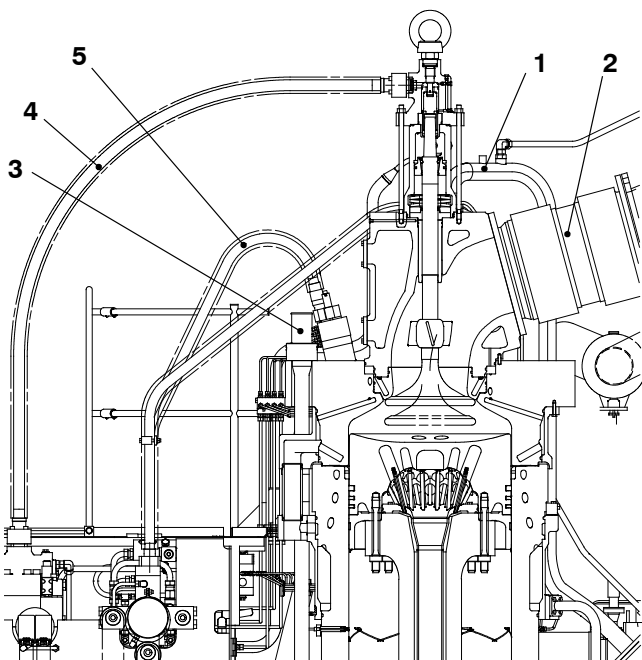

Fig. 11
- 13) Operate the engine room crane to move the cylinder cover (5) above the cylinder liner (1). Make sure that you align the transition tube (2) with the bore in the water guide jacket (4).
- 14) Operate carefully the engine room crane to lower the cylinder cover (5) on to the water guide jacket (4). Make sure that the transition tube goes into the bore of the water guide jacket (4).
- 15) Clean the threads of the elastic studs (3, Fig.11)
- 17) Install the round nuts to the elastic studs (3), refer to 9403-4.
- 18) Install the hydraulic pipe (4), refer to: 8460-1.
- 19) Install the three HP fuel pipes (5), refer to 8733-1.
- 20) Attach the cooling pipe (1).
- 21) Install the expansion piece (2) with the slings, refer to 2751- 1.